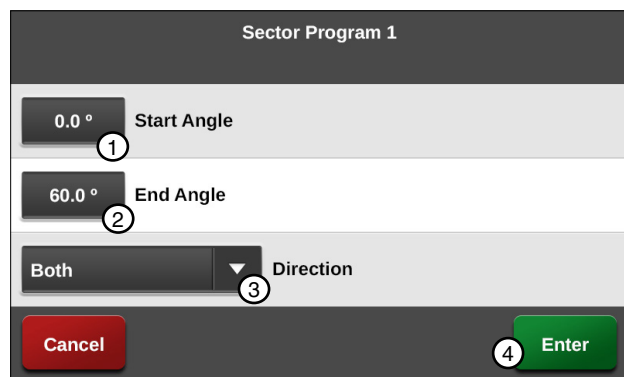

Figure 144-2 1. Start Angle
6. Select the **End Angle** field. Refer to Figure 144-2.